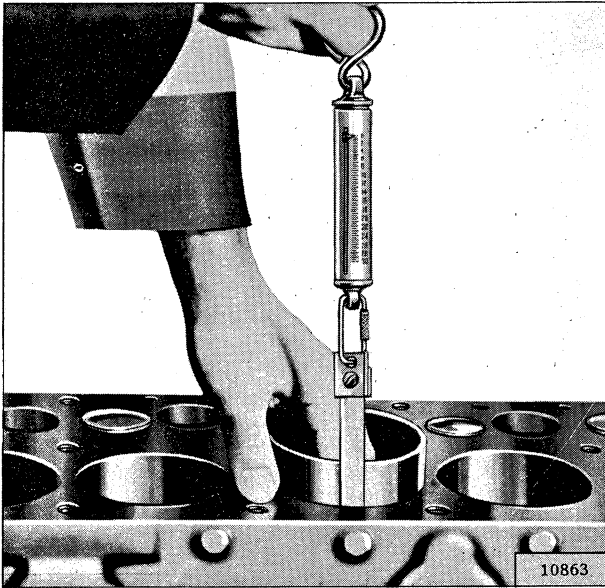

FIG. 35—PISTON FITTING
a. After cylinder bores have been carefully checked for out-of-round and taper (Par. D-32), check fit of each piston to cylinder bore with block and pistons clean and dry and at approximately 70°F. [21°C.] by using Piston Fitting Gauge And Scale tool C-690 as shown in Fig. 35. Use a .003" [0,076 mm.] thickness gauge 3/4" [19 mm.] wide. The piston is fitted upside down in the block to facilitate the operation. The gauge must extend the full length of the piston on the thrust side (opposite side from slot in piston skirt). Scale should register 5 to 10 pounds [2,3 a 4,5 kg.] pull to remove the thickness gauge from between cylinder wall and piston. Excessive pull indicates need for a slightly smaller